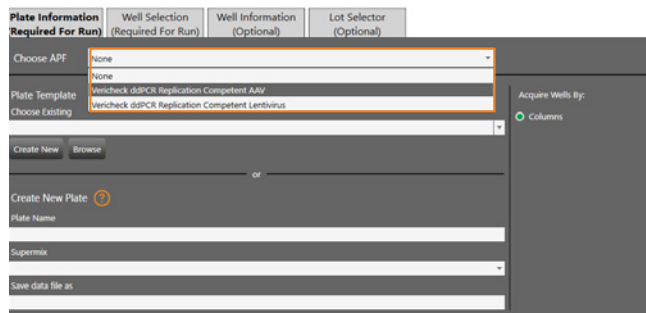

Fig. 9. Selecting an APF for use.
3. In the Choose APF dropdown menu, select the VeriCheck ddPCR Replication Competent AAV APF (Figure 9).